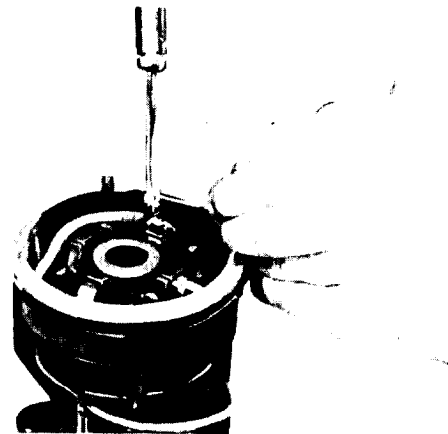
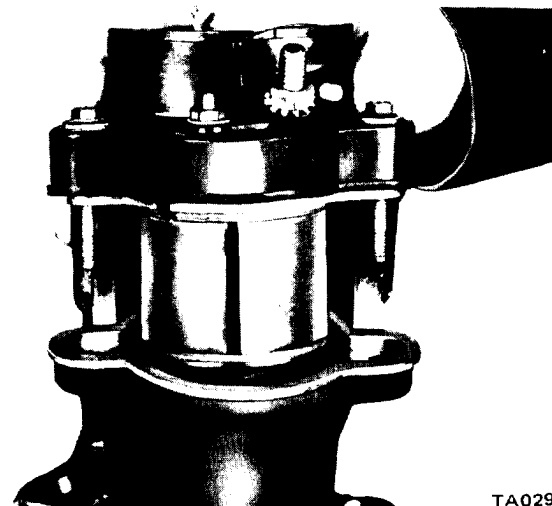

Figure 15-23. Soldering Solenoid Lead to Brush Terminal.
Figure 15-24. Installing Solenoid and Brush Plate Assembly.
(13) Wrap the solenoid lead wire tightly around the brush terminal post as shown in figure 15-23 and solder it securely with a high temperature resin core solder and resin flux.
(14) Attach the brush holder to the solenoid attaching screws.
(15) Place the solenoid coil and the brush-plate assembly into the bore of the gear housing. Place the brush-plate assembly in the starter gear housing (figure 15-24). Install the housing attaching nuts and tighten.